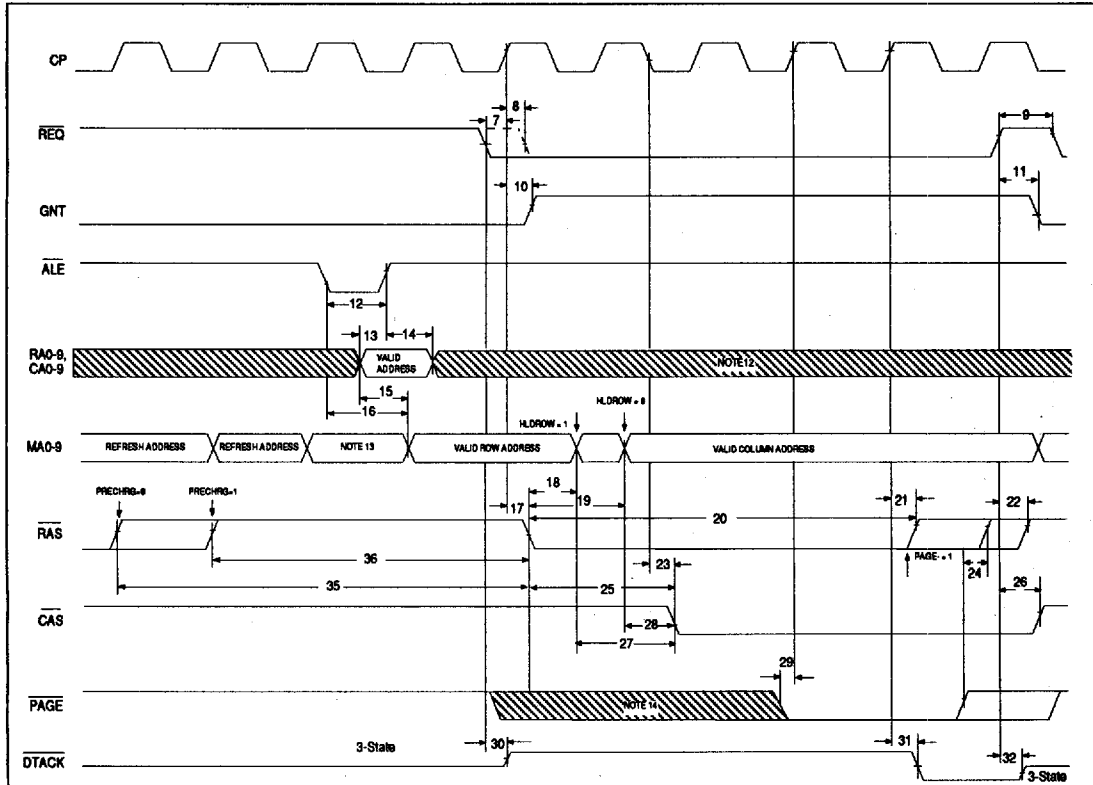

Figure 4: Memory access cycle timing following a refresh cycle
**Note 8:**  $\overline{REQ}$  input is a don't care during a memory refresh cycle. If  $\overline{REQ}$  is asserted during a refresh cycle, it will be recognized at the first rising CP clock edge, following the refresh cycle and its associated RAS precharge time (see Figure 4).